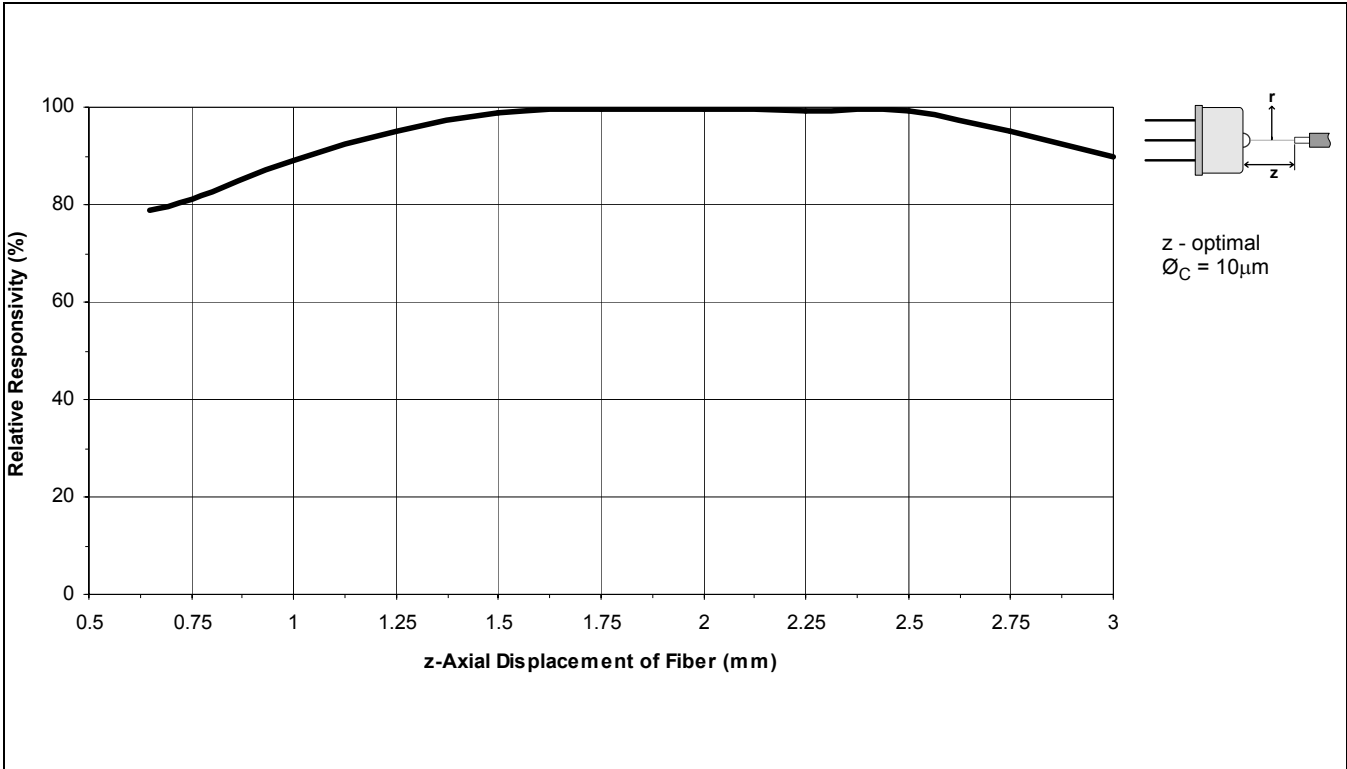

Figure 2 - Typical Responsivity vs Axial Displacement for a Singlemode Fiber
1. Position the top of the TO-46 lens 1.0 mm from the fibre end in axial direction. This correspond to a z-axial displacement of 1.67 mm as shown in figure 2.